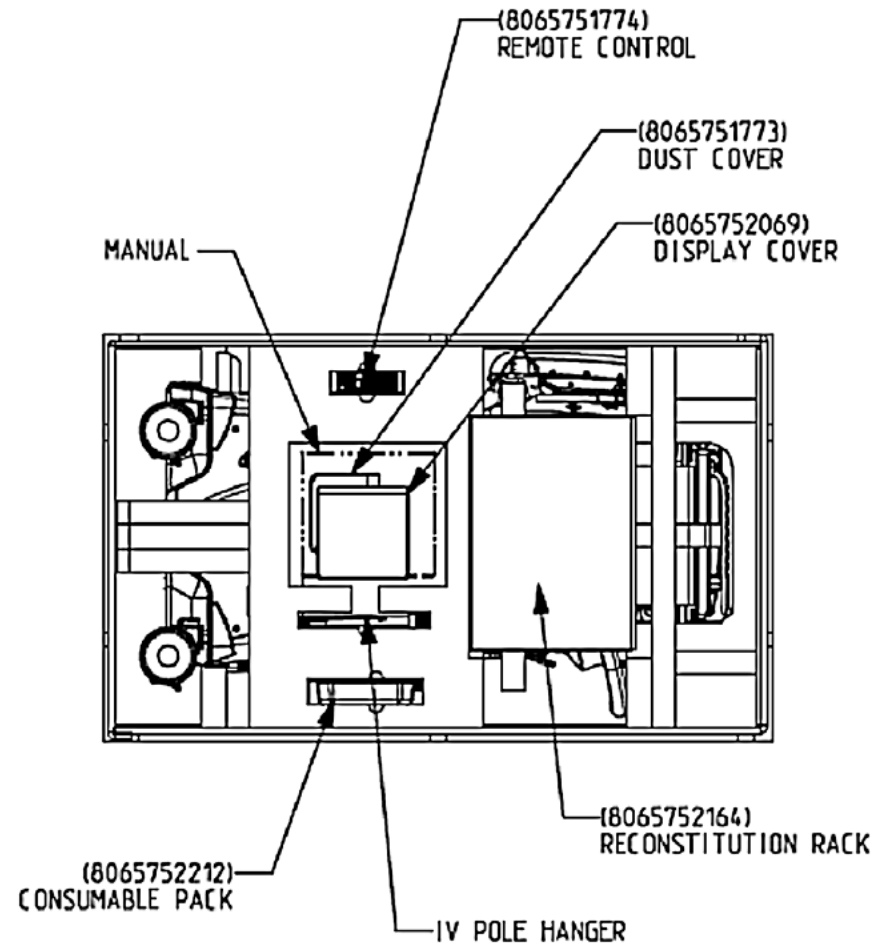

Figure 1-1 Packing Configuration
- 6.1.1 Cut the packing straps and then remove the top cover. Refer to Figure 1-1 for packing configuration.